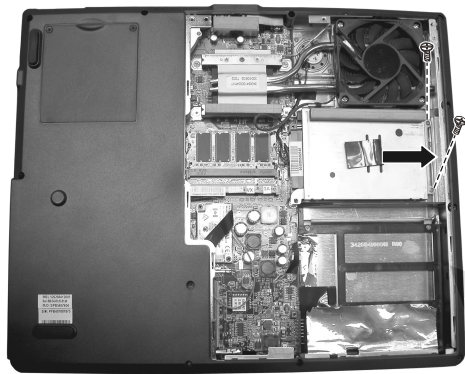

Figure 2-7 Remove HDD module
2. Remove two screws fastening the HDD module and slightly lift up HDD module. (Figure 2-7)